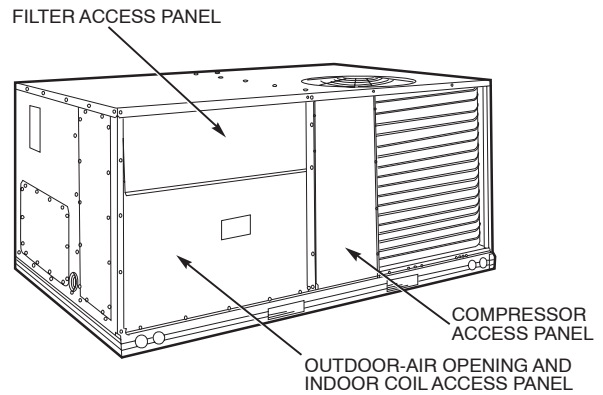

Fig. 24 – Typical Access Panel Locations
1. To remove the existing unit filter access panel, raise the panel and swing the bottom outward. The panel is now disengaged from the track and can be removed. (See Fig. 24.)